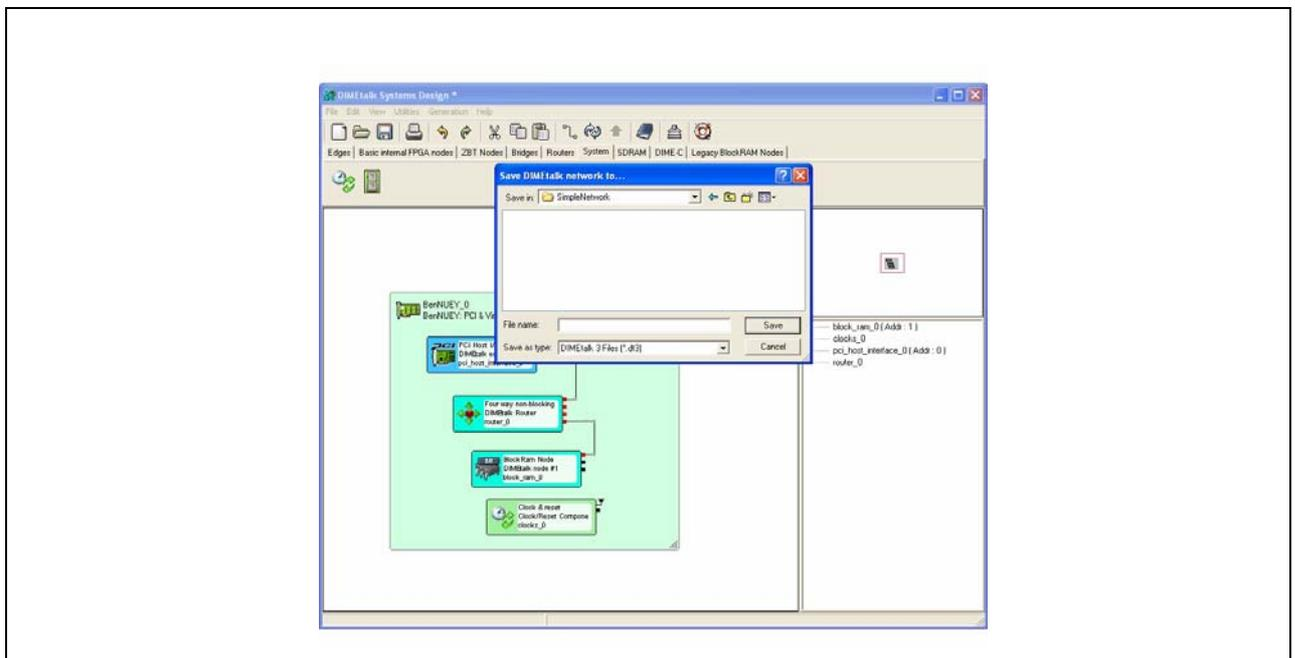

Figure 16: Save Network
11. Before continuing further, the network should be saved. Click on the disk button (right) in the toolbar menu and save the network to an appropriate location as shown in **Figure 16**.